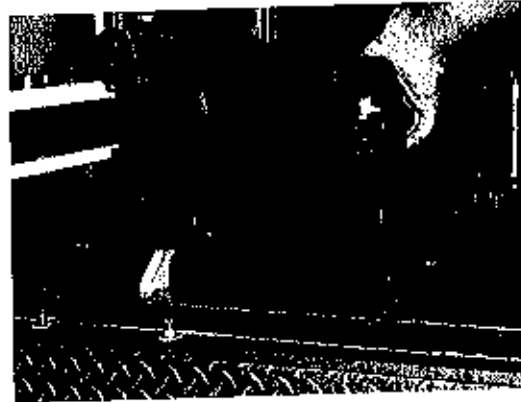

Figure 26: Disengaging the Safety Bar
4. **Operator 2** – Pull the safety bar release lever forward to disengage the safety bar from the safety hook in the patient compartment (Figure 26).